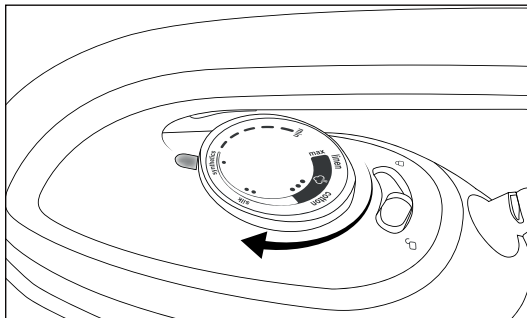

Fig. 7
- 3) Turn the temperature control **3** to set the required ironing temperature (see fig. 7).